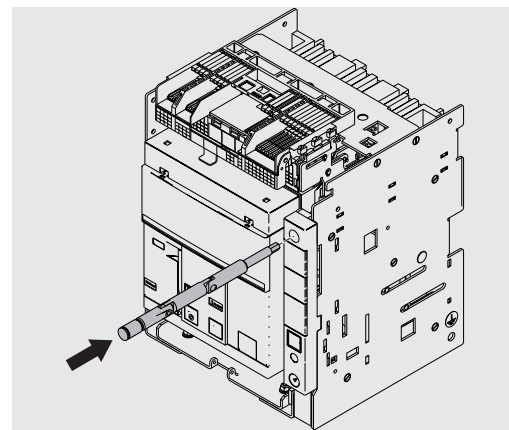

Figure 61
9. Replace the crank in its housing See Figure 61.